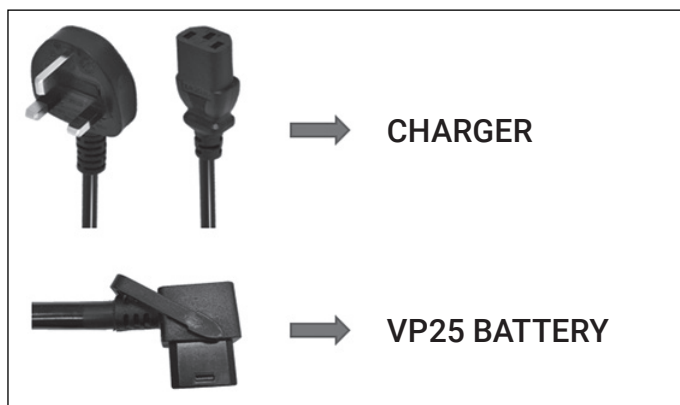

Figure 59
4. Plug the charger cable into the charging port **(Fig. 59)**. It requires some force to be inserted.